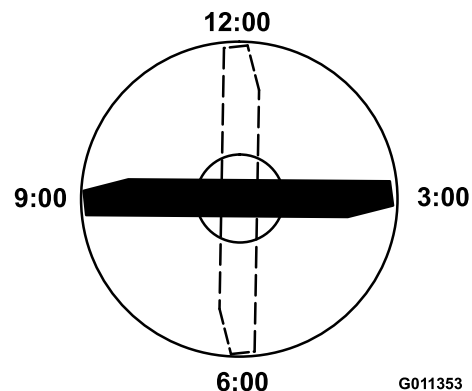

Figure 64
4. Position the cutting edge of the marked end of the blade at 12 o'clock (straight ahead in the direction of mowing) (Figure 64) and measure height from table to cutting edge of blade.
5. Rotate the marked end of the blade to the 3 and 9 o'clock positions (Figure 64) and measure the heights.